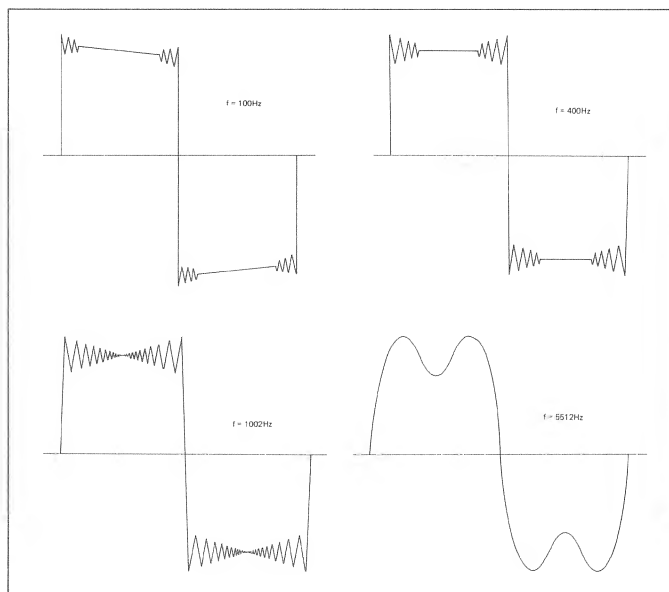

Fig. 4.24
- Play track 20 and visually assess the square-wave signals at 100 Hz, 400 Hz, 1002 Hz, and 5512 Hz. The curve should be shaped symmetrically (see Fig. 4.24).